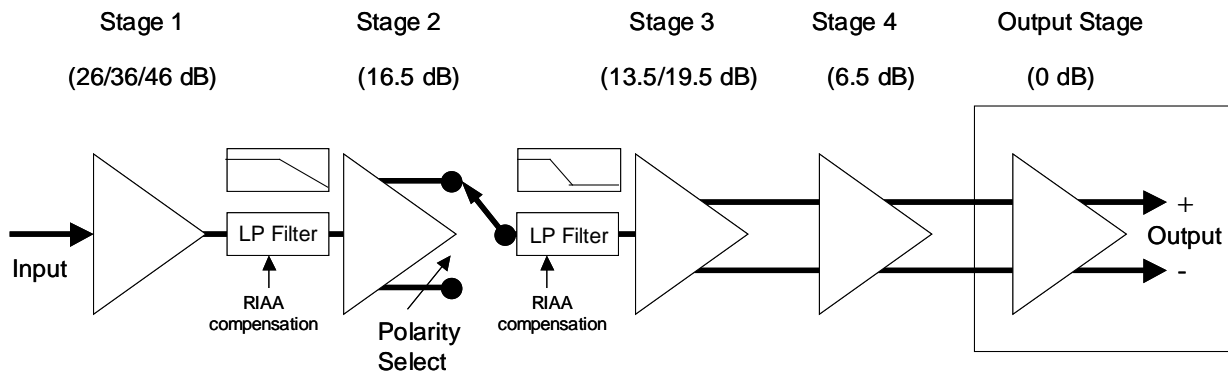

Figure 4 – Block Diagram of Phono-ONE
The block design of the ONE is shown in **Figure 4**. It consists of four all FET gain stages, two of which can be adjusted to provide the required gain to accommodate virtually all phono cartridges, either magnet (MM) or moving coil (MC). With the exception of the first stage, all of the gain stages are differential amplifiers. In addition, each gain stage employs its own precision, temperature compensated, constant current source and voltage regulator for the ultimate in stability, signal control, and isolation.
As can be seen from Figure 4, the third and fourth gain stages, and the output stage utilize both differential outputs, thus the ONE simultaneously provides a balanced output through a standard XLR connector and a single-ended output via a standard RCA type phono jack.